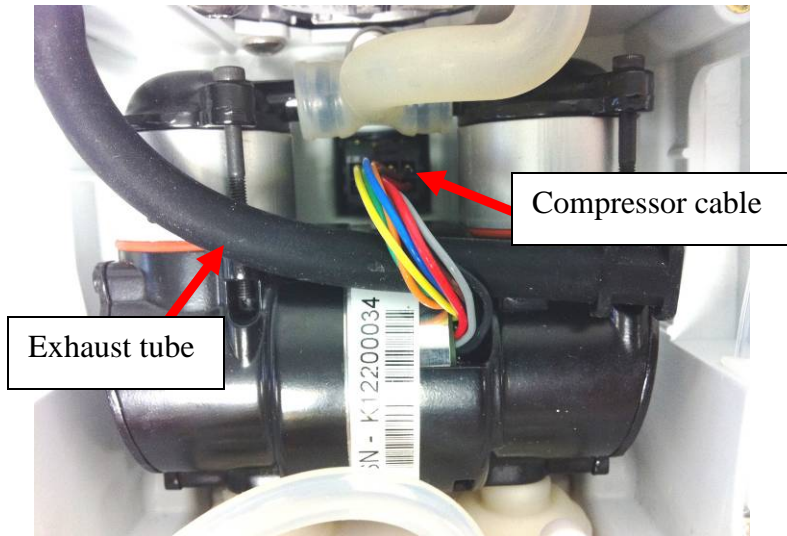

Figure 8: Compressor components
6. Remove the compressor cable from the motherboard using pliers to press down on the release clip while pulling the connector housing away from the device (Figure 8). *Do not pull on the compressor wires.*
7. Remove the loose end of the black exhaust tube from the compressor cable loop (Figure 8).
5. Plug in the compressor cable (Figure 8). Double check that the cable housing is locked into the receptacle.
6. Place the black exhaust tube back through the compressor cable loop (Figure 8).